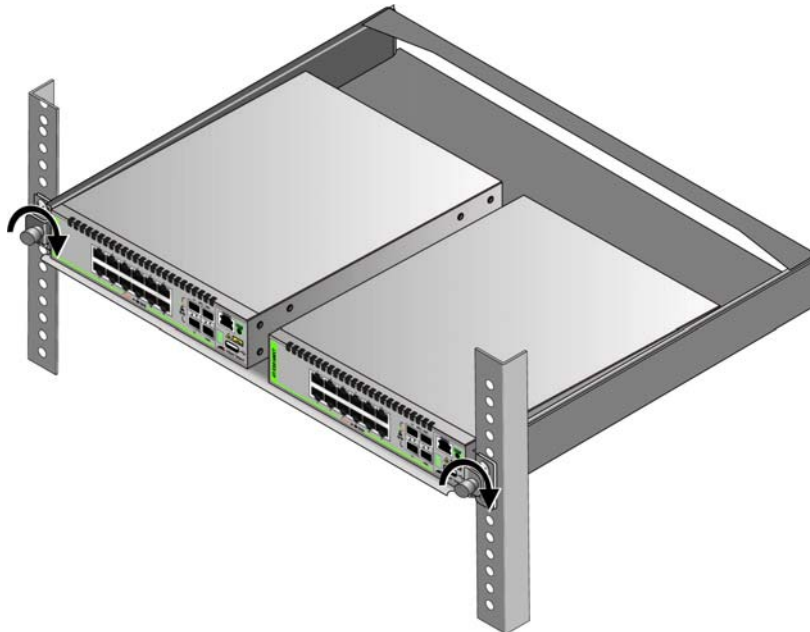

Figure 31. Tightening the Two Thumbscrews on the AT-RKMT-J15 Bracket
11. Tighten the two thumbscrews to secure the tray to the bracket. Refer to Figure 31.